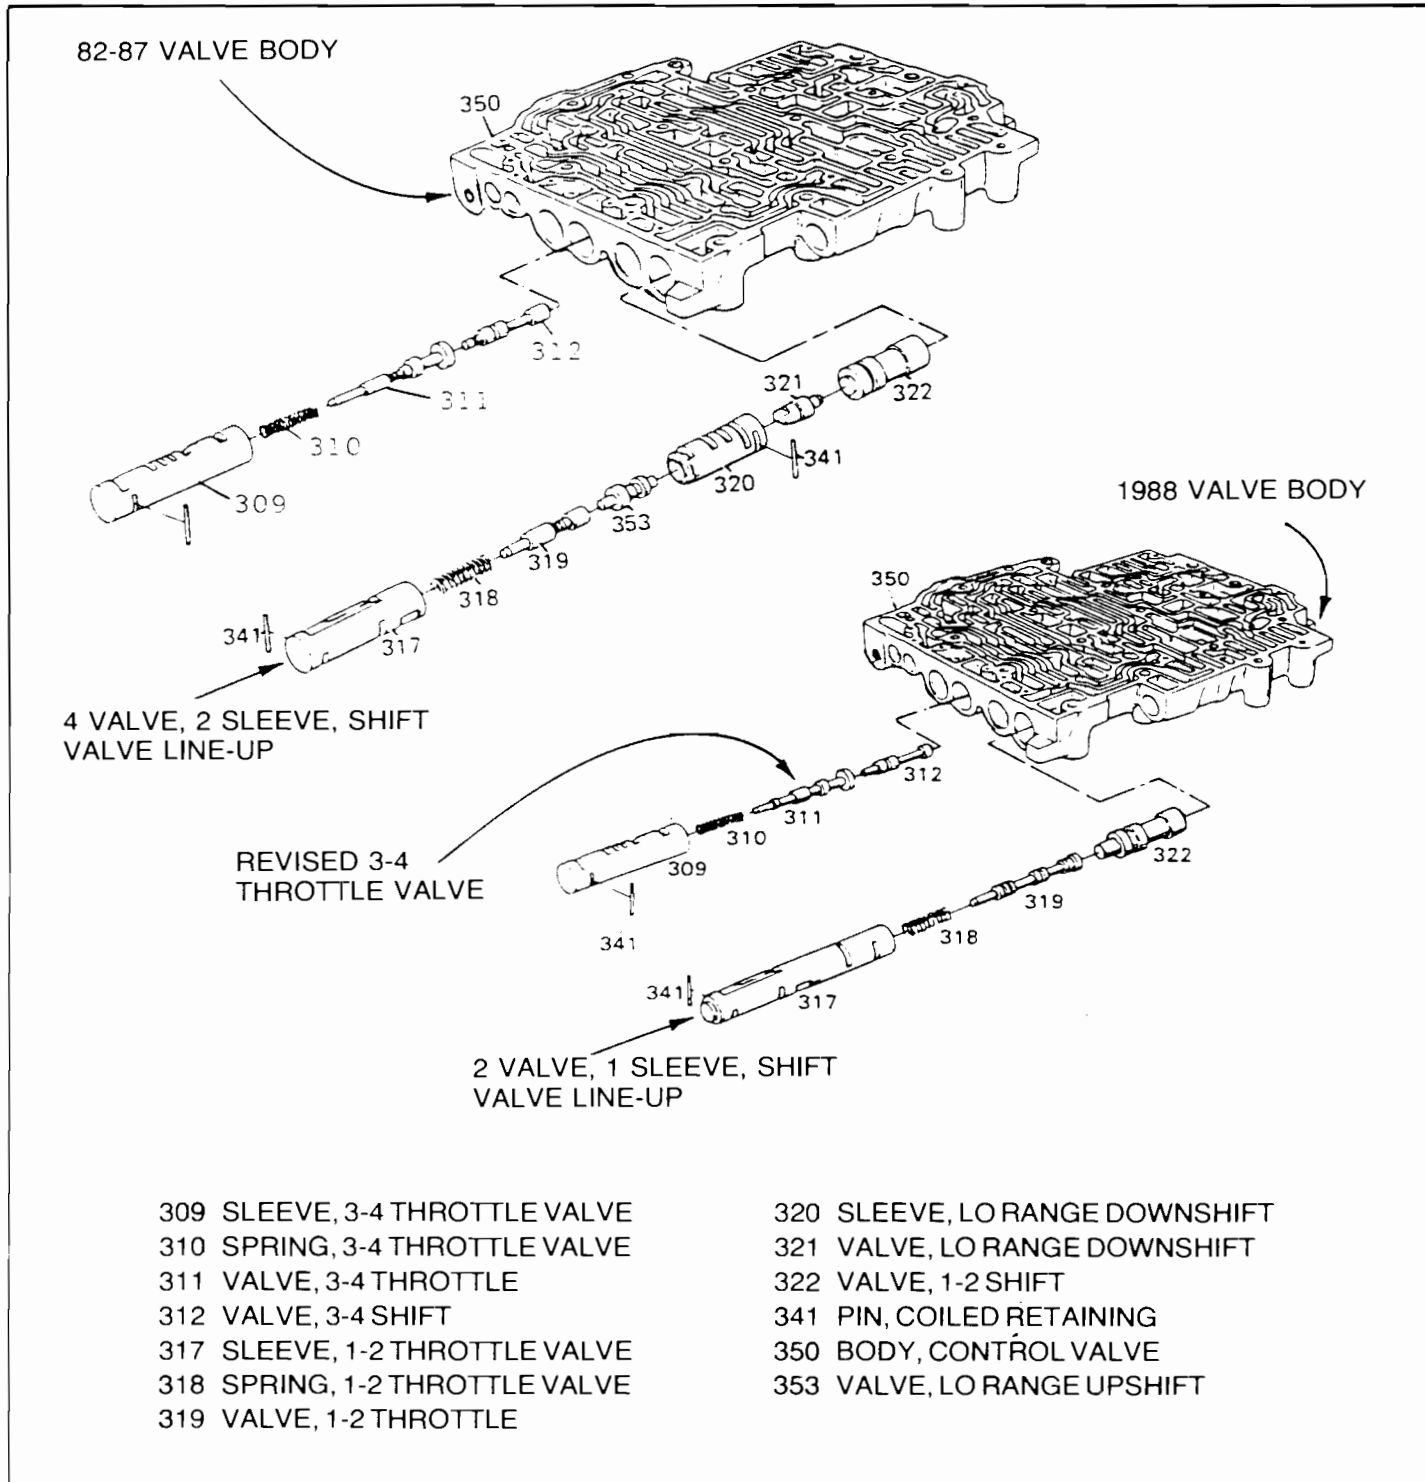

Figure 41
CHANGE: Revised 1-2 shift valve line-up in the main valve body, and a revised 3-4 throttle valve (See Figure 41).
- (1) 1-2 Shift Valve Line-up – The 1-2 shift valve line-up changes from 4 valves and 2 sleeves, to 2 valves and 1 sleeve. The Lo Range Downshift Valve(321), Lo Range Control Sleeve(320), and the 1-2 Lo Range Upshift Valve(353) have been eliminated from the 1988 models (See Figure 41).
- (2) 3-4 Throttle Valve – The 3-4 throttle valve and sleeve have been revised (See Figure 41).
- (3) Spacer Plate – Spacer plate has been revised to be compatible with the new valve body, as have both valve body gaskets. There is now a "Two" letter code on all 87-88 spacer plates and can be identified as follows: